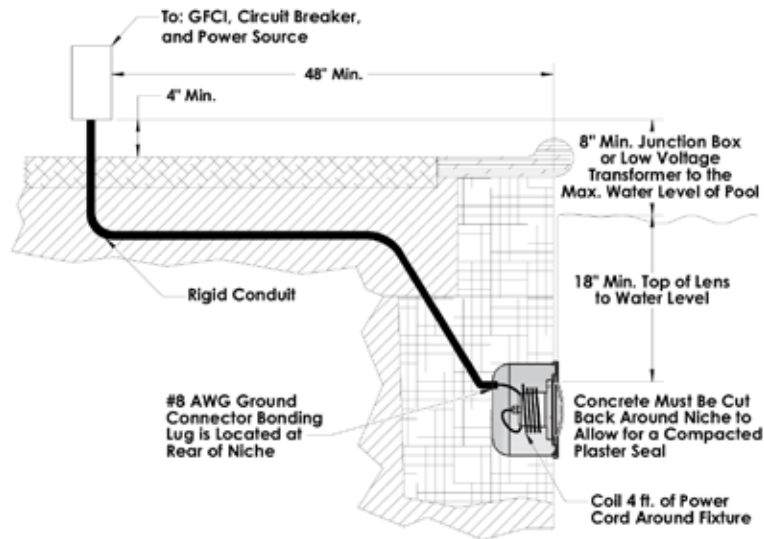

Figure 1
- A junction box or low voltage transformer is located at least 8 inches above the maximum pool water level and at least 48 inches from the pool edge; reference Figure 1.
- Proper wet niche installation with the top edge of the underwater light's lens at least 18 inches below the surface of the water in the pool and not more than 20" in Canada; reference Figure 1.
- Proper electrical wet niche bonding and grounding using the #8 AWG ground connector at the rear of the niche; reference Figure 1.
1. Feed the fixture cord through the conduit to the junction box. Be sure to leave at least four (4) feet of cord at base of the fixture to coil around the light to ensure ease of servicing once the pool and/or spa is filled; reference Figure 1.
2. At the junction box, cut the cord. Be sure to leave at least six (6) inches of cord for making connections.
3. Carefully strip the outer cord jacket to expose six (6) inches of the underlying three insulated wires.